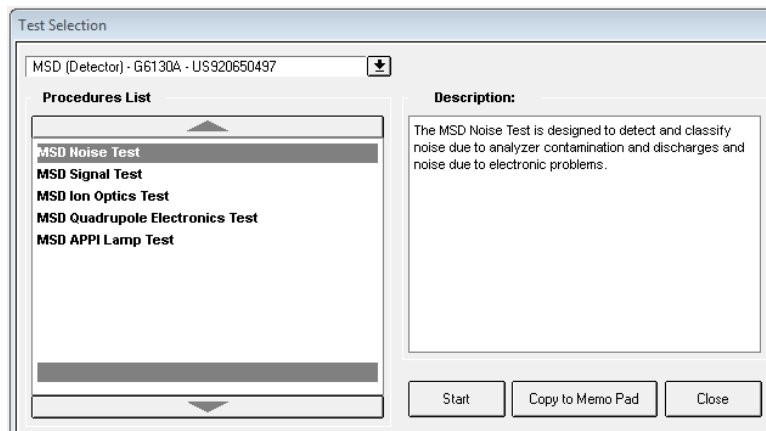

Figure 65 Diagnostic tests for the MS
- **Show Module Tests** – Display a list of diagnostic tests for that module, as shown in Figure 65 on page 120.
There are a number of preprogrammed diagnostic tests that you can access for each module in your system. You can display a complete list of tests for each module by clicking the module icon in the instrument panel and selecting **Show Module Tests**. Figure 65 shows the tests for the MS.